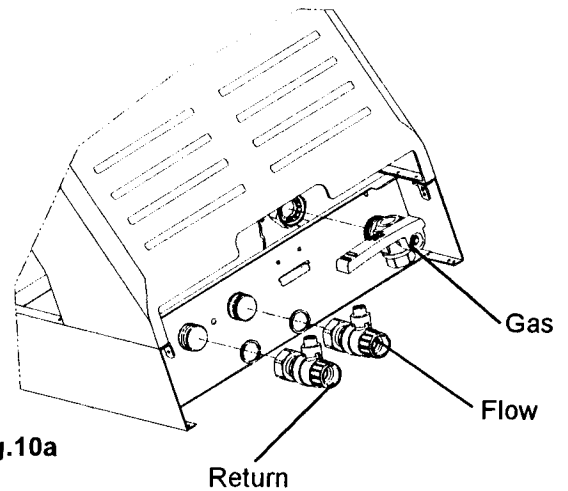

Fig.10a
- 5.3.4 Loosely fit (hand tight) the valves and fittings using the washers supplied (Fig.10a).
5.6.1 Figs. 10a & 18 show the locations of the fittings.